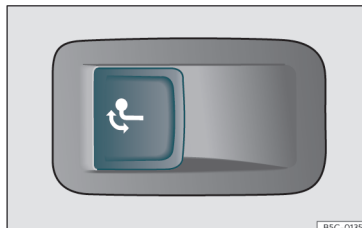

Fig. 187 On the left side of the luggage compartment: button for unlocking the tow hook.
- Pull the >>> **Fig. 187** button briefly. The tow hook unlocks electrically and automatically turns outwards. The button's control lamp flashes.
- Pull the >>> **Fig. 187** button briefly. The tow hook unlocks electrically.
- If the warning light on the button >>> **Fig. 187** → *flashes*, this means that the tow hook has not been attached properly or is damaged. >>> ⚠
- If the warning lamp >>> **Fig. 187** → *remains on* with the rear lid open, the tow hook is correctly in place both when extracted and when covered.
- Never press the button >>> **Fig. 187** when there is a trailer hooked to the vehicle or when a carrier system or other accessories are mounted on the tow hook.